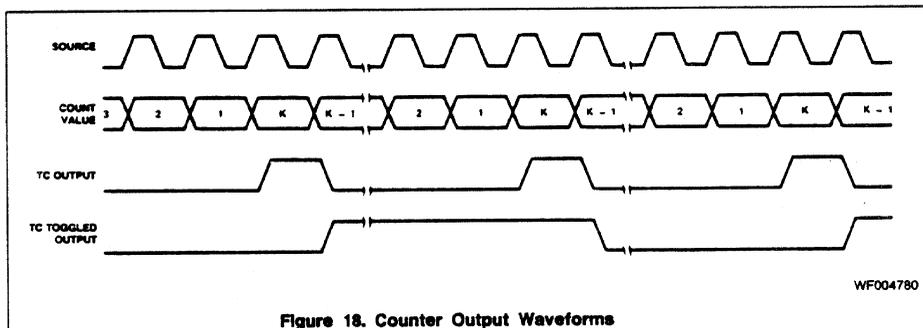

Figure 18. Counter Output Waveforms
Each Counter Logic Group includes a 18-bit Counter Mode (CM) register used to control all of the individual options available with its associated general counter. These options include output configuration, count control, count source and gating control. Figure 18 shows the bit assignments for the Counter Mode registers. This section describes the control options in detail. Note that generally each counter is independently configured and does not depend on information outside its Counter Logic Group. The Counter Mode register should be loaded only when the counter is Disarmed. Attempts to load the Counter Mode register when the counter is armed may result in erratic counter operation.
One output form available is called Terminal Count (TC) and represents the period in time that the counter reaches an equivalent value of zero. TC will occur on the next count when the counter is at 0001 for down counting, at 9999 (BCD) for BCD up counting or at FFFF (hex) for binary up counting. Figure 18 shows a Terminal Count pulse and an example context that generated it. The TC width is determined by the period of the counting source. Regardless of any gating input or whether the counter is Armed or Disarmed, the terminal count will go active for only one clock cycle. Figure 18 assumes active-high source polarity, counter armed, counter decrementing and an external reload value of K.